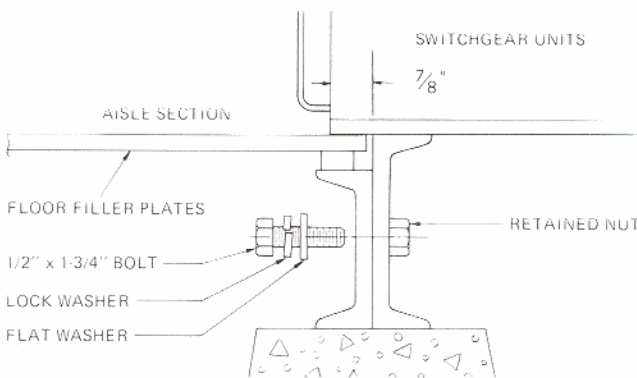

FIGURE 48
2. Referring to the floor plan drawing supplied, place the aisle base(s) on the foundation and complete bolting of the aisle base(s) to the switchgear bases (Figure 48) **BE SURE ALL BASES ARE LEVEL.**